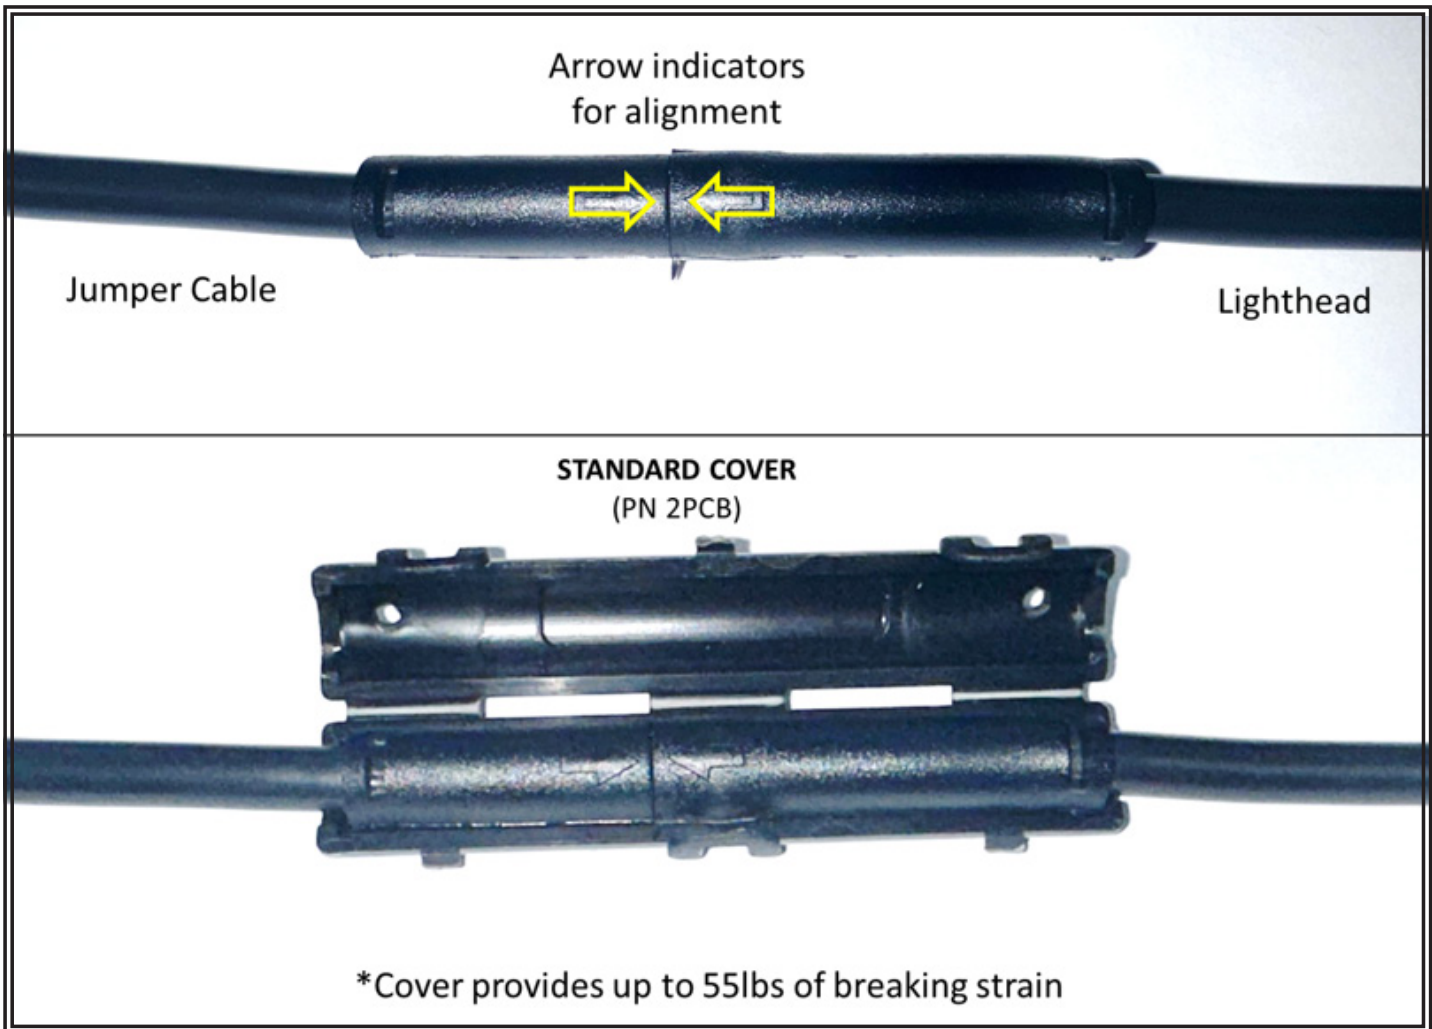

Figure 4
4. Attach the jumper cables (female connector side) to the Switchnode harness and route to where the lightheads will be mounted on the vehicle. Use arrow indicators on connectors for proper alignment. Add optional covers. See Figure 4.
5. Attach lightheads to the jumper cables. Use arrow indicators on connectors for proper alignment. Add optional covers. See Figure 4.